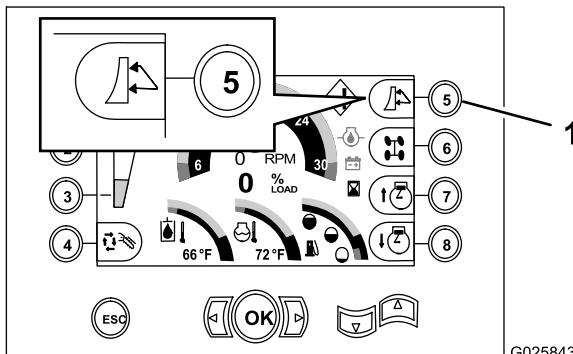

Figure 46
- 1. Switch the machine to the backfill blade function by pressing button 5 on the command center until the icon for the backfill blade appears (Figure 46).